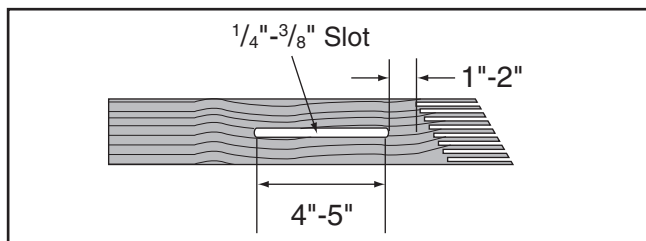

Figure 81. Slot routed in featherboard.
4. Rout a $\frac{1}{4}$ "– $\frac{3}{8}$ " wide slot 4"–5" long in the workpiece and 1"–2" from the short end of the featherboard (see **Figure 81**).